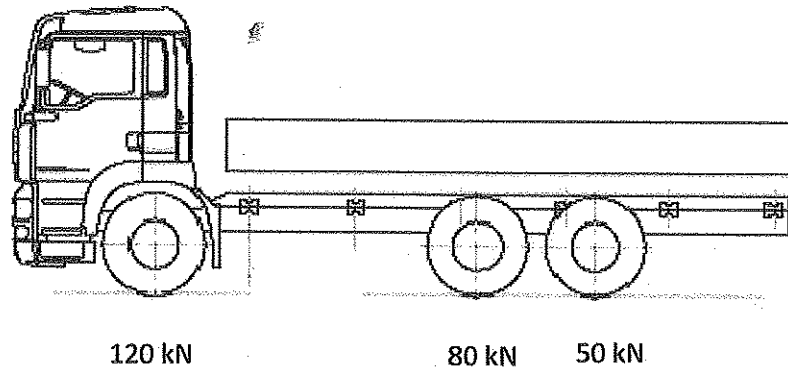

Figure 2c/ Rajah 2c
- (c) An axle is a central shaft for a rotating wheel or gear. For wheeled vehicles, the axle may be fixed to the wheels, rotating with them, or fixed to the vehicle itself, with the wheels rotating around the axle. **Figure 2c** shows the overall weight of lorry is at 250kN and the weight is being transmitted to the pavement through the arrangement of three axles. Evaluate the equivalency factor, e for the vehicle by using correct formula.